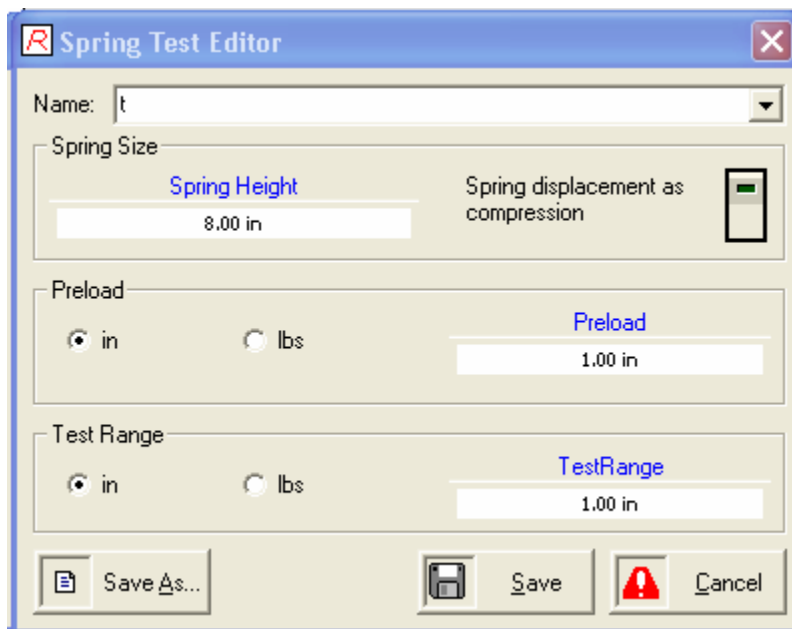

figure:2
3. If you wish to view the graph with displacement graphed as compression from extended height enter the spring length in the spring size window and click the switch in spring size box. You may save the edited test as the original test name or re-name the test using the **Save As** button. (figure:2)